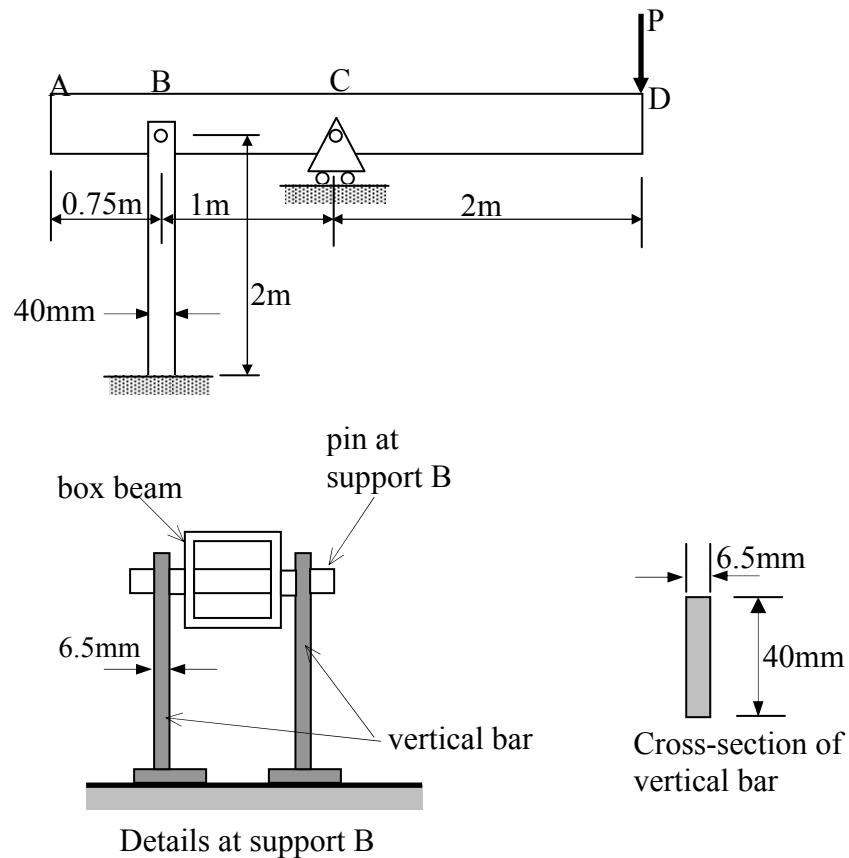

Figure 1
1. Figure 1 shows a hollow box beam ABCD of length 3.75m which is pin connected to two vertical bars at B and supported by a roller support at C. Details of the pin connection at end B is shown in Figure 1 where the diameter of the pin is 20mm. A vertical load P acts at end D. If $P=15\text{kN}$, determine:
- c) the bearing stress between the pin and each of the vertical bar at B if the dimension of the cross-section of each of the vertical bar is 40mm x 6.5mm as shown in Figure 1.